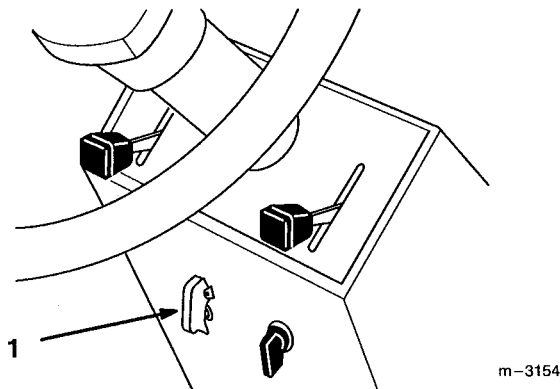

Figure 5
3. To engage lift cover and move the PTO switch to the "ON" position (Fig. 5).
1. Closing the cover moves the PTO switch to the "OFF" position (Fig. 5).